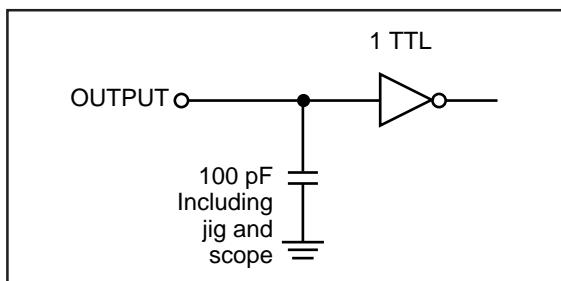

Figure 1
Output Load	See Figures 1
- Test conditions assume signal transition times of 5 ns or less, input pulse levels of 0.4V to 1.4V and output loading specified in Figure 1.